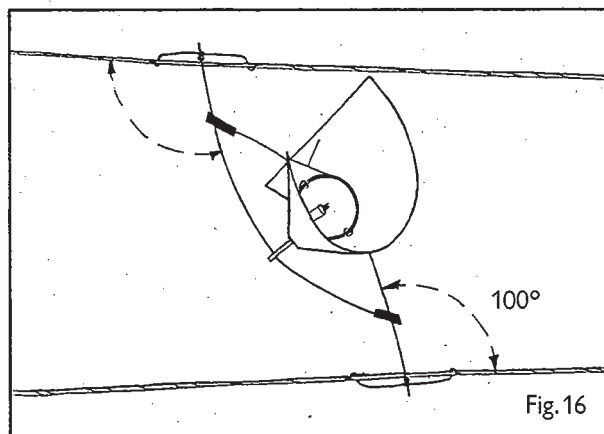

Fig. 16
1. The lighting elements (see above for assembly instructions) must be attached to the lower cable and one of the two upper cables. Attach the element to the cables in the manner shown in Fig. 16; i.e. so that the ends of the wire hangers are at a roughly  $100^\circ$  angle to the cables and the retaining springs are approximately parallel with the cables. Otherwise you will not be able to fit the retaining springs properly onto the cables.